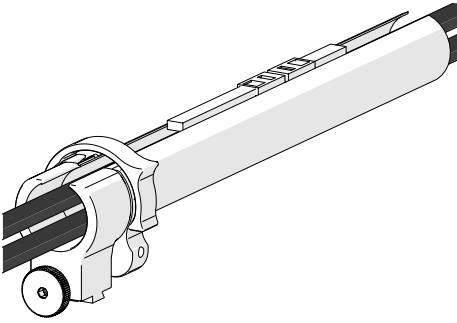

Fig. 67 - Zip opposite end
3. Once the cable is placed the entire length of the tube, bring the zipper from the tube's opposite end, meeting at any point in the middle (Fig. 67).